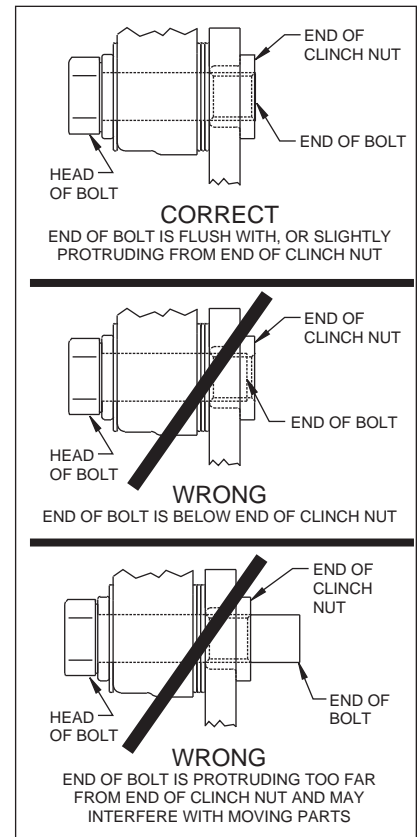

Figure 3.
- Install the o-ring (16) and the dust cap (15) onto the hub (6). Friction created by the o-ring (16) on the dust cap (15) keeps it from unscrewing on its own.
- **NOTE:** Please reference the caution statement at the beginning of the assembly instructions. This kit contains distinct right and left hand calipers that must be mounted in a specific direction, as described below. Mount the caliper (17) onto the caliper bracket (1) by positioning the mounting tabs on the backside of the bracket. Slide bolt (18) through washer (19) from the backside. Place two shims (20) between the caliper (17) mounting tabs and the caliper bracket (1) during initial installation. Finger tighten. Ensure that the caliper is mounted so the largest pistons are at the rotor exit end of the caliper, in relation to the direction of rotor rotation. View the rotor (10) through the top opening of the caliper (17). The rotor (10) should be aligned in the center of the caliper (17). If not, adjust the caliper (17) by using 0.032 inch thick shims (20) placed between the *caliper mounting bracket (1) and the caliper (17)*. Add as many shim washers (20) as necessary to achieve the correct alignment. **NOTE:** The end of the bolt must be flush with or slightly protruding from the head of the clinch nut. See Figure 3. Place spare shims (20) between washer and caliper mounting ear to achieve the proper mounting fastener configuration. Always use the same amount of shims on both the top and bottom caliper mounting bolts (18). Finger tighten and recheck alignment. If everything is properly aligned, apply red *Loctite® 271* to bracket bolt threads (2) and torque to 42 ft-lb as well as bracket bolt threads (4) and torque to 42 ft-lb. Then apply red *Loctite® 271* to caliper mounting bolt threads (18) and torque to 40 ft-lb.
- Install the disc brake pads (21) and secure using the pad clip retainer (22).